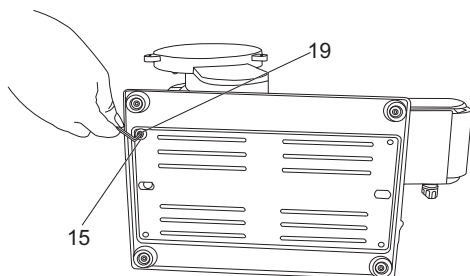

Fig. 4
- > Put a big flat washer M5 (15) onto the screw M5 x 12mm (19), then tighten it with the 4mm hex key. (Fig. 4)